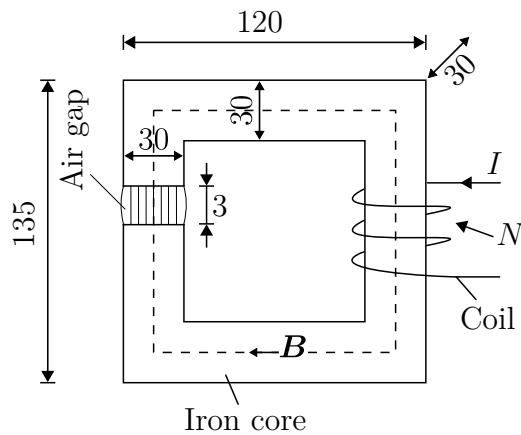

Figure 1.1: Simplified sketch of a magnetic iron core. All dimensions of the core are given in mm.
The iron core consists of thin single metal sheets with a cross-sectional area of $A = 900 \text{ mm}^2$ and with an air gap of $\delta = 3 \text{ mm}$. A simplified sketch is shown in Fig. 1.1. The material behavior of the selected iron is visualized in Fig. 1.2. The coil with N turns contains a direct current which results in a homogeneous magnetic flux density of $B_\delta = 1.8 \text{ T}$ in the air gap.
- 1.2 How big is the magnetic flux density B_{Fe} in the iron core at the dotted line in Fig. 1.1? Neglect the leakage flux.